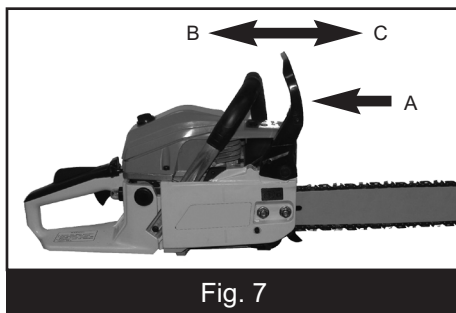

Fig. 7
1. The chain brake lever (Fig.7-A) should click between positions (B) and (C). Leave it in position (C) for starting.